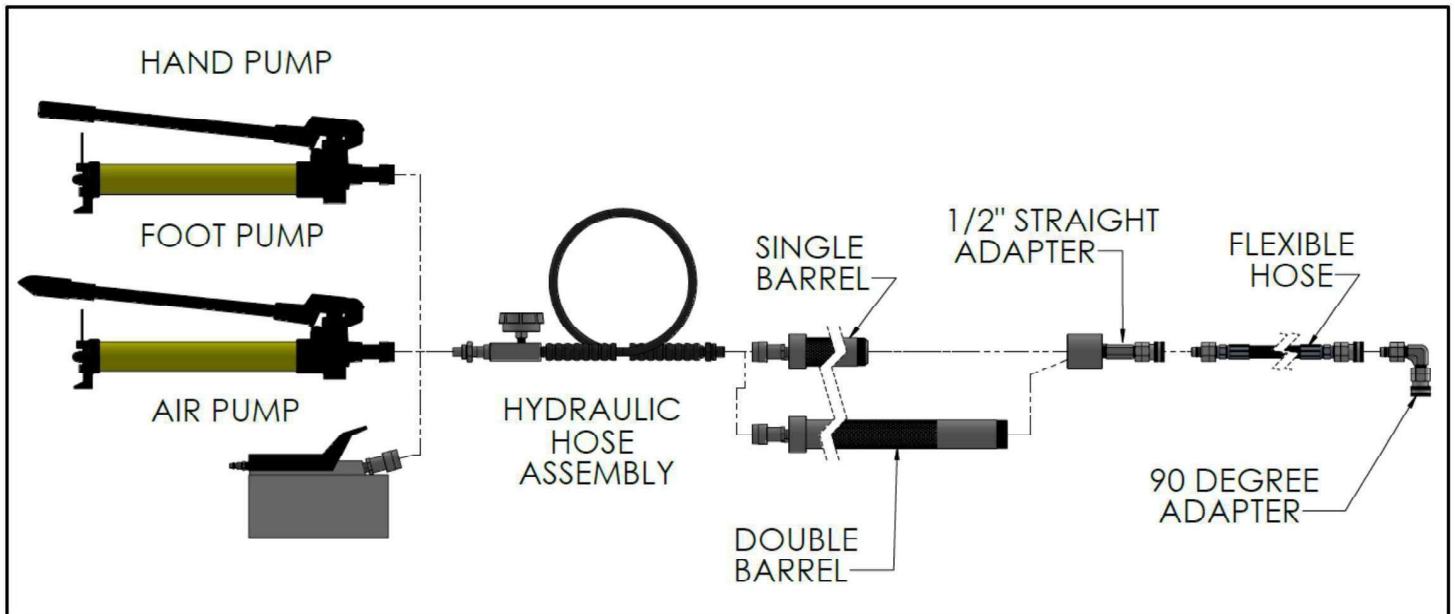

Figure 6
PLIDCO offers hydraulic sealant pumps with standard and long barrels. There are three different pump variations you could choose from: Hand pump, foot pump, and air pump. They all utilize standard hydraulic fittings and are interchangeable between units. Figure 6 shows the different variations on the pumps. All units come in a Pelican® case for storage between uses.
- 1.) Figure 6 above shows how to assemble the units after removing them from the case.